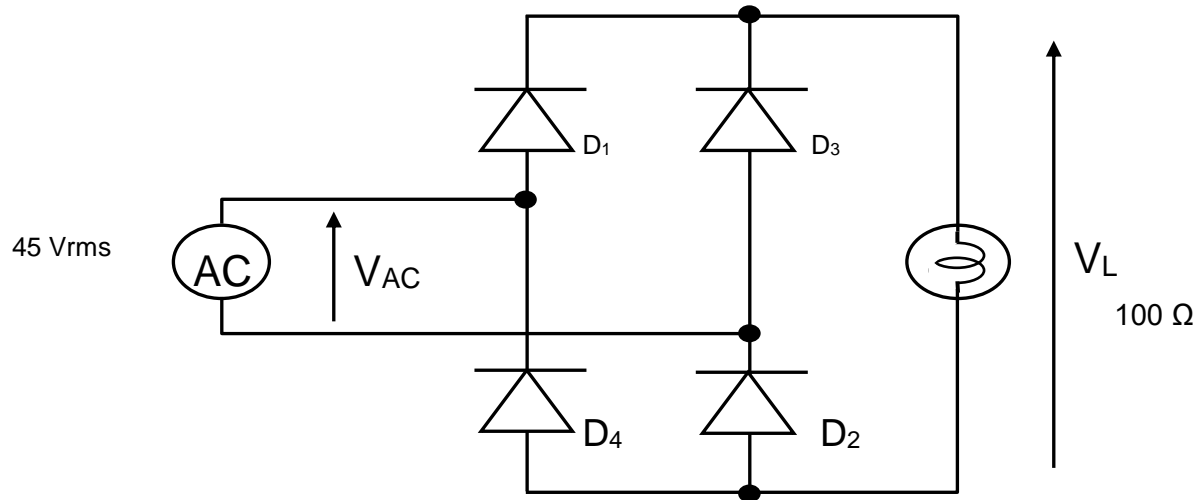

Figure 2.8 - Single-phase full wave uncontrolled bridge rectifier circuit
1. Construct the circuit as shown in Figure 2.8 below.